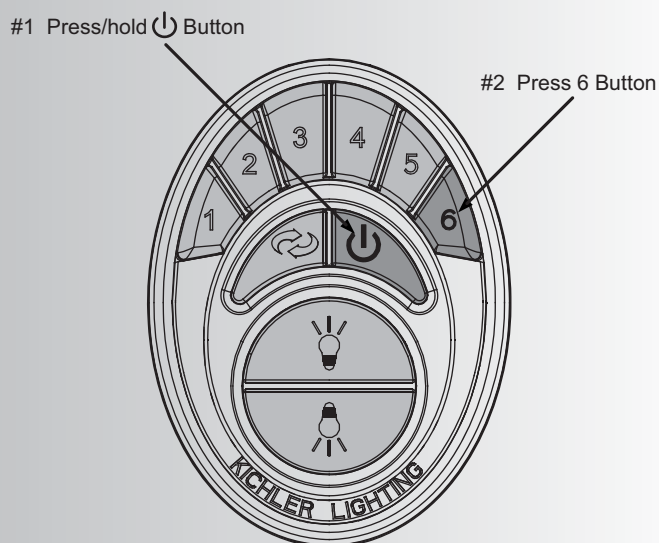

Fig. 14
4. Turn the power on, press and hold the (⏻) button until the ceiling fan light blinks twice (Figure 14)
6. After the ceiling fan light blinks twice, press and release the High Speed (6) Button. Let the ceiling fan run for a minimum of 90 seconds ( 1 ½ minutes). The control system will do another self check, initialize all operational functions and complete the programming process (Figure 14).